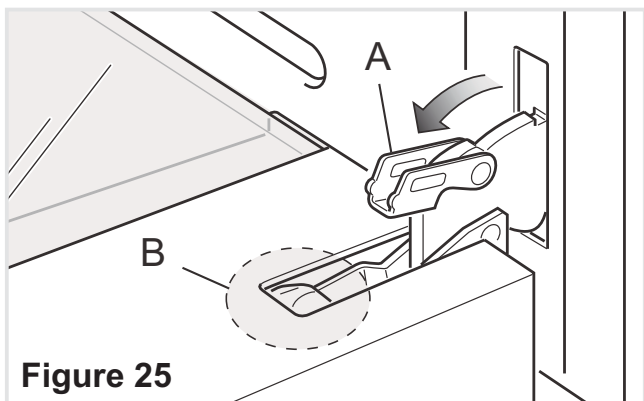

Figure 25
- Fully open the lever "A" on the left and right hinges. (fig. 25).
- Gently close the door until left and right hinge levers "A" are hooked to part "B" of the door (figs. 25, 26).